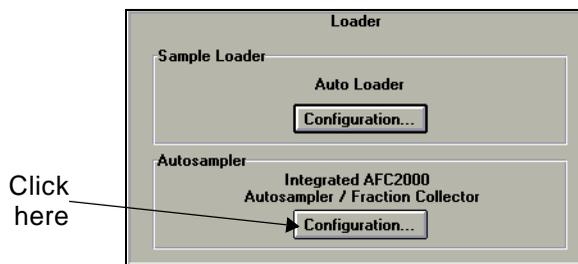

Figure 3-7 Configuring as an Integrated Fraction Collector
3. In the Autosampler/Fraction Collector section of the Configuration dialog box (Figure 3-7), click the **Configuration** button under Integrated AFC 2000.